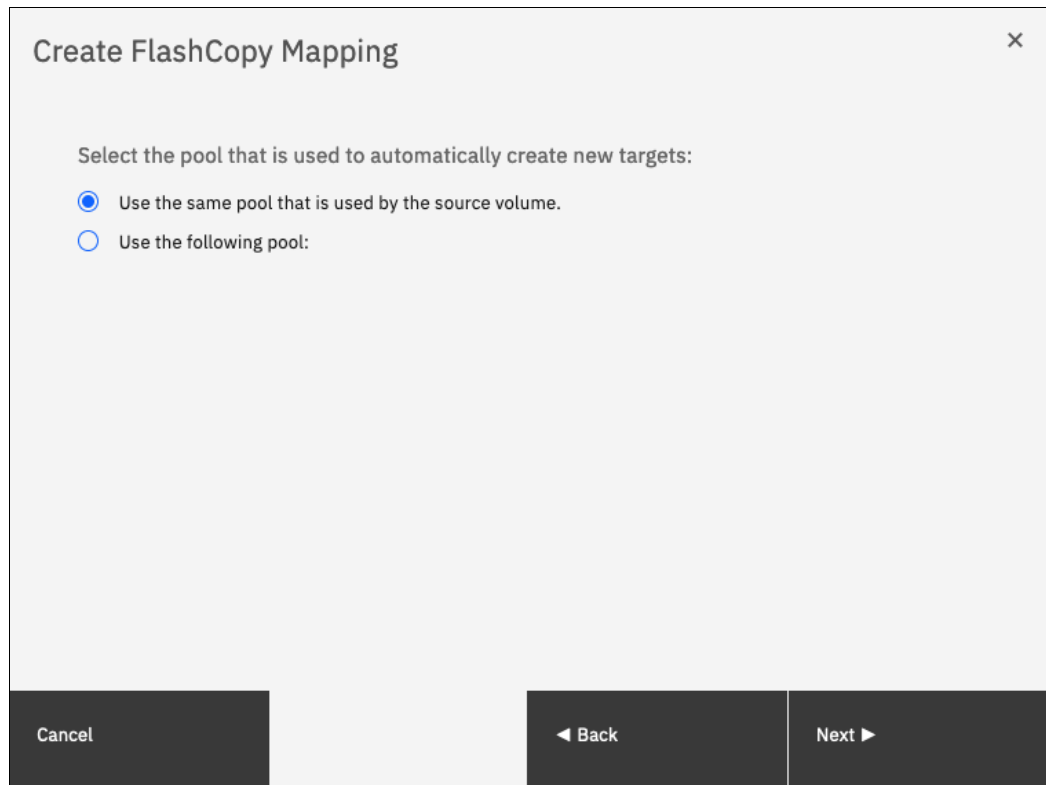

Figure 10-30 Selecting the pool
5. The system prompts the user to select the pool that is used to automatically create targets, as shown in Figure 10-30. Click **Next**.